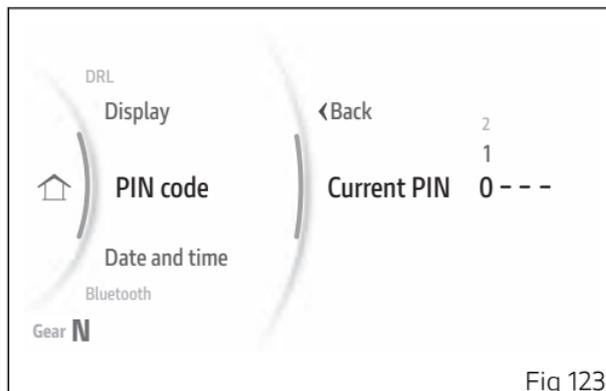

Fig 123
- The display shows "Current PIN", press ENTER (3) to proceed with entry (Fig 123).